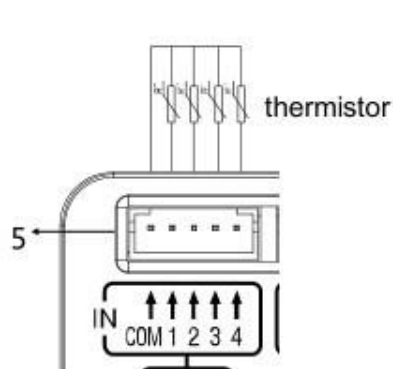

Figure 5. Wiring
5. Input terminal, contact to dry contact or thermistor. See Figure 5.